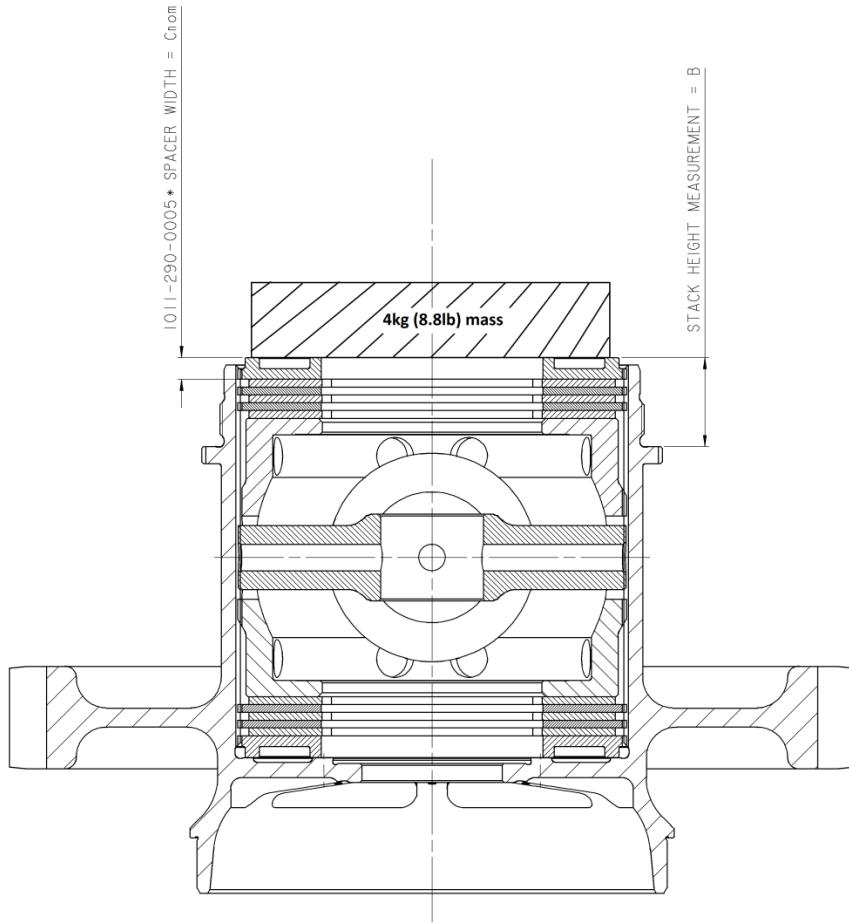

Figure 10– Diff Set Up Measurements
2. Measure a nominal setting spacer width (1011-290-005*) as shown in Figure 10 (Dim C_{NOM}). NOTE this *must* be the same for both spacers.
5. Measure the distance from the diff body abutment to the top of the stack as shown in Figure 10 (Dim B)